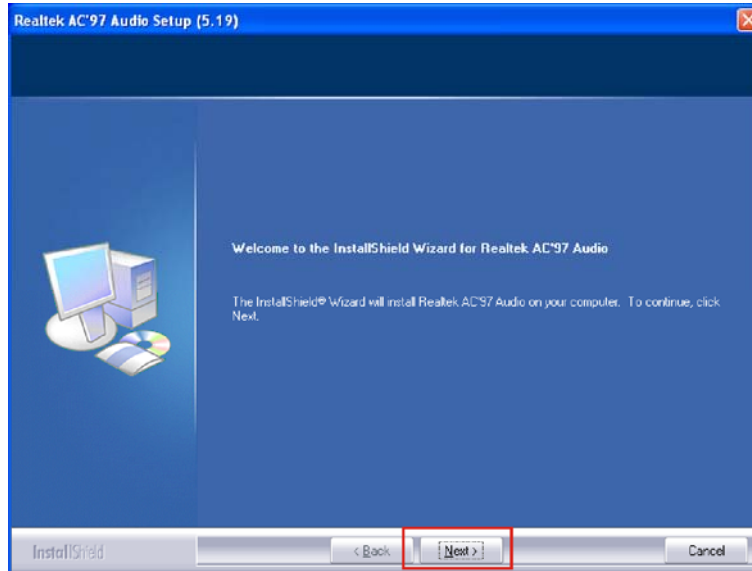

Figure 7-22: AC'97 Driver Installation Welcome Screen
Step 5: The AC'97 Driver Installation screen in **Figure 7-22** appears.